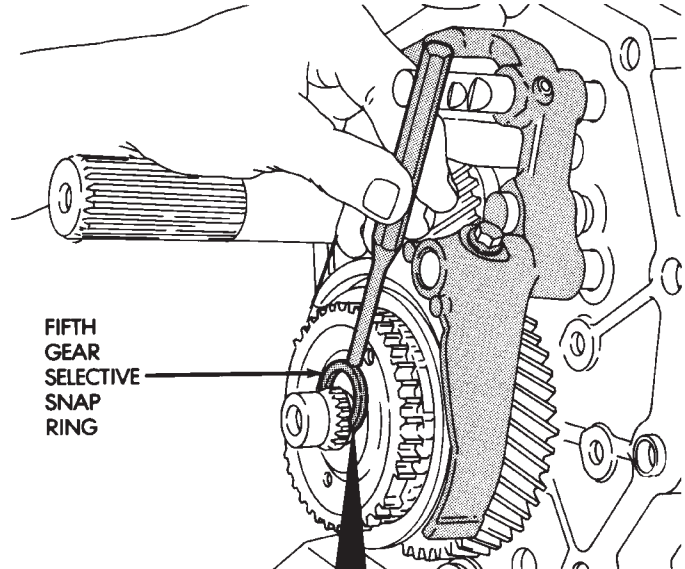

Fig. 100 Install Fifth Gear Snap-ring
(34) Install snap-ring to hold the countershaft fifth gear assembly onto the countershaft (Fig. 100).